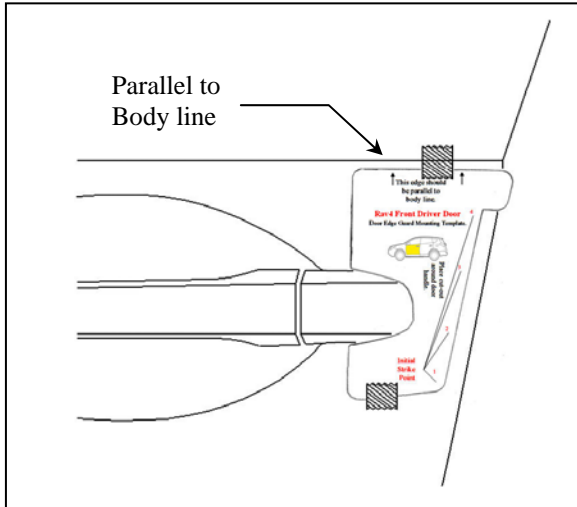

Fig. 2-3
- (i) Select front door template and fit notch around door handle. Adjust as needed to ensure it is parallel to body line directly above the template. If needed, tape into place using painter's masking tape. (Fig 2-3)